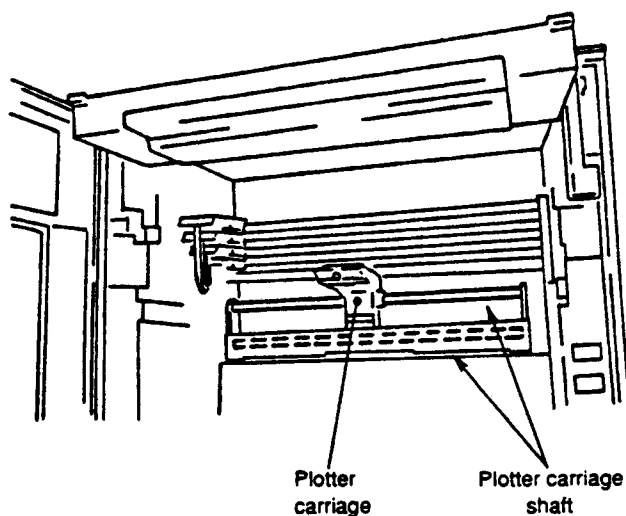

Figure 9-8. Cleaning the Plotter Carriage Shaft
2. Two shafts (the upside and the downside of the plotter carriage) are visible (see Figure 9-8). Wipe off dirt using a soft cloth without fibers. If the dirt is persistent, you may use ethyl alcohol.